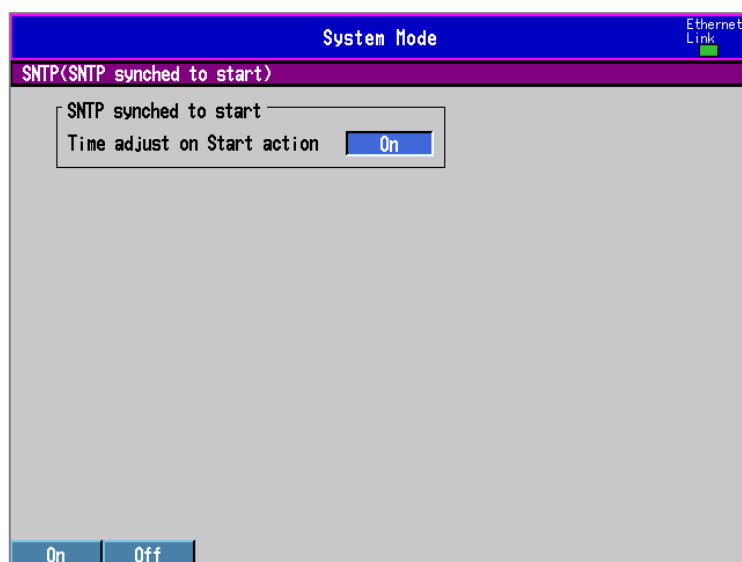

Fig. 5.2 Screen for SNTP setup at memory start
- a) When selecting [#2 SNTP synched to start], the screen shown in Fig. 5.2 will appear.